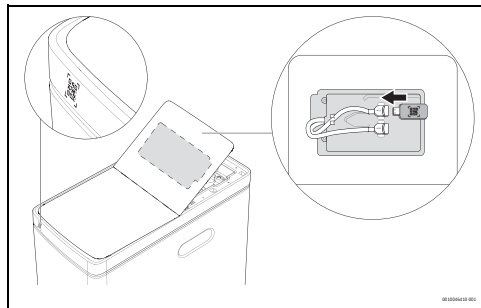

Fig. 32 QR code location
1. On the HomeCom Easy, scan the QR-code that you can find on the product, as described in (→ Fig. 32).